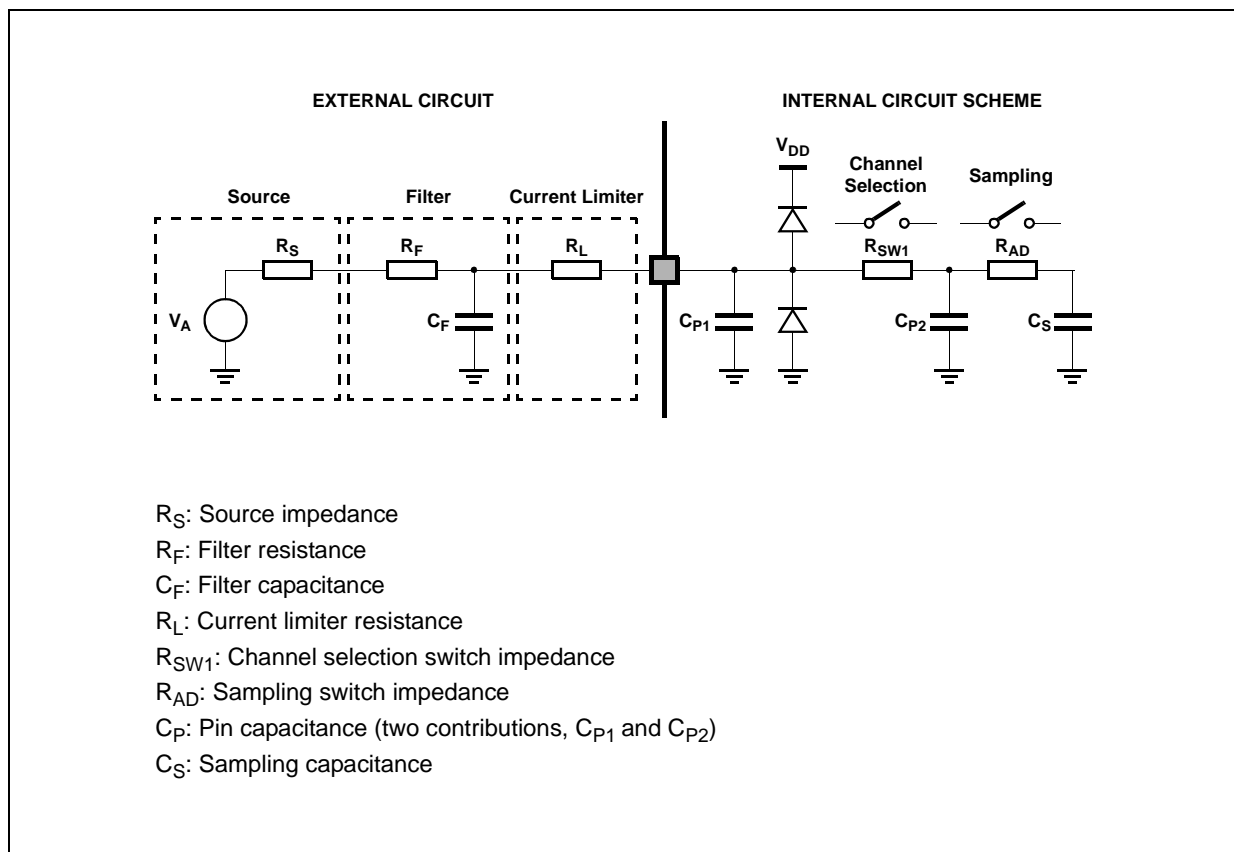

Figure 16. Input equivalent circuit
A second aspect involving the capacitance network shall be considered. Assuming the three capacitances C_F , C_{P1} and C_{P2} are initially charged at the source voltage V_A (refer to the equivalent circuit reported in Figure 16): A charge sharing phenomenon is installed when the sampling phase is started (A/D switch closed).
- See Figure 16.